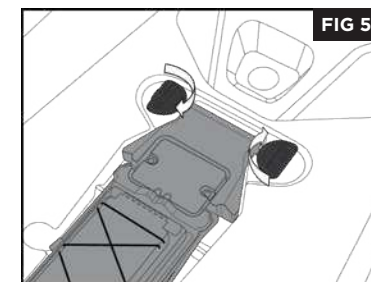

FIG 5
- Rotate the front lock knobs clockwise over the two pivot pins. If needed, use the included Allen wrench to tighten lock knob shoulder bolts (fig 5).